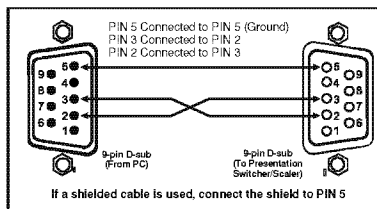

Figure 4: Connecting the PC
- Connect the RS-232 9-pin D-sub port on your PC to the RS-232 9-pin D-sub rear panel port on the **VP-725xl** unit, forming a cross-connection³, as Figure 4 illustrates